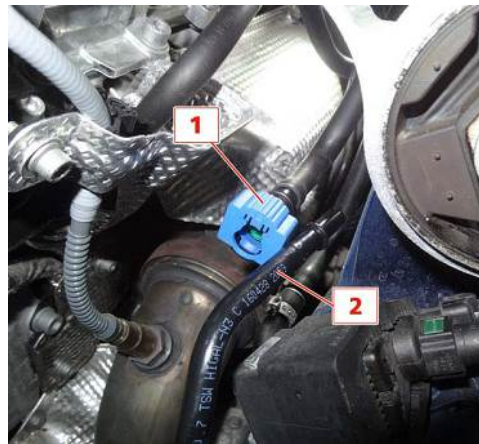

Fig.31
27. Attach the new body delivery line to the engine delivery line and snap the lock closed. (Fig.31)